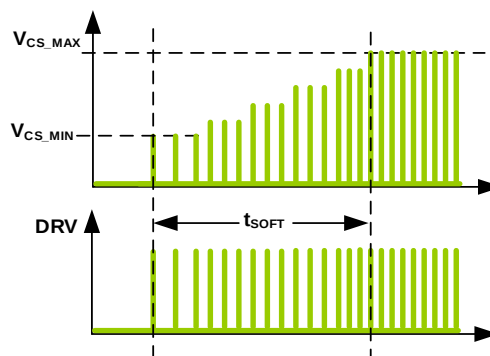

Figure 3: Soft Start
To reduce the stress on power components and smoothly establish  $V_{OUT}$ , the HFG611-45 employs soft start (SS). Figure 3 shows the peak current limit gradually increasing from  $V_{CS\_MIN}$  to the maximum current-sense voltage ( $V_{CS\_MAX}$ ) during start-up, unless the feedback takes over.